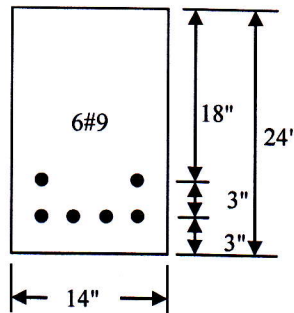

Figure 1
1. Calculate the maximum bending stresses in concrete and steel in the beam section shown (10) in Figure 1, Given  $f'_c = 4$  ksi,  $f_y = 60$  ksi,  $n = 8$ ,  $M = 110$  k-ft and  $f_r = 475$  psi.